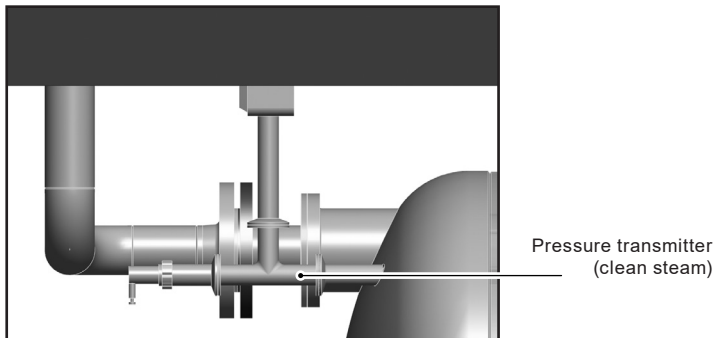

Fig. 14
5.4.4 Steam pressure transmitter - Figure 14